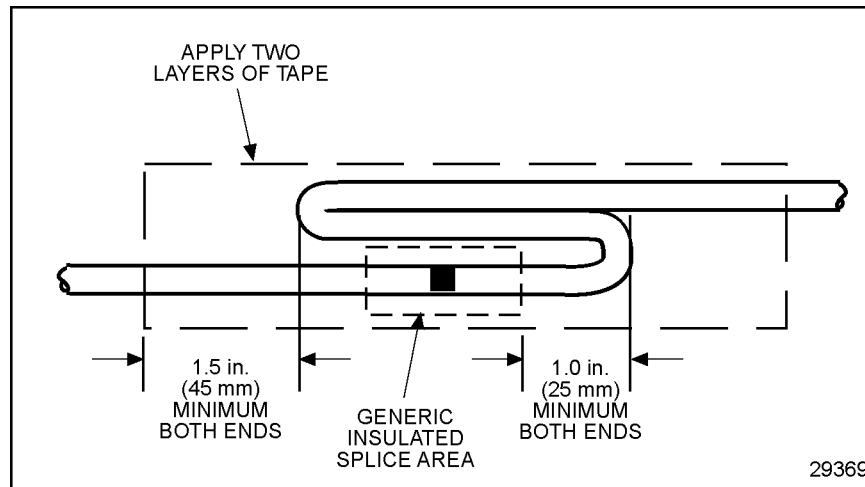

Figure 3-18 Recommended Strain Relief of Spliced Joint
5. Loop the lead back over the spliced joint and tape. See Figure 3-18.
8. Loop the lead back over the spliced joint and tape. See Figure 3-18.
9. Loop the lead back over the spliced joint and tape. See Figure 3-18.